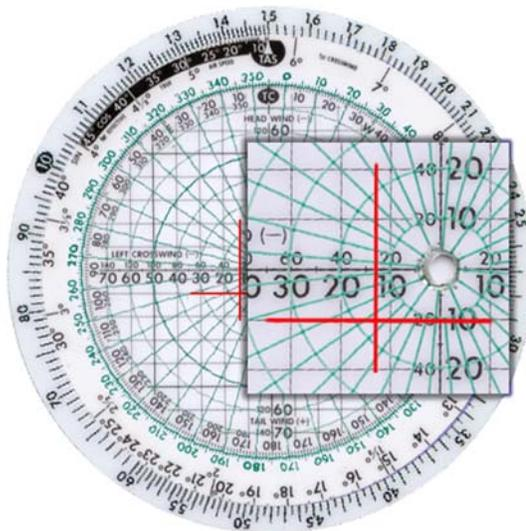

Figure 4.6-9 In-Flight Wind Calculation 6
6. Compare TAS to GS to obtain the HW/TW component ($160 \text{ GS} - 150 \text{ TAS} = 10 \text{ kts TW}$, which also agrees with the estimate). Draw horizontal line along appropriate value (Figure 4.6-9).